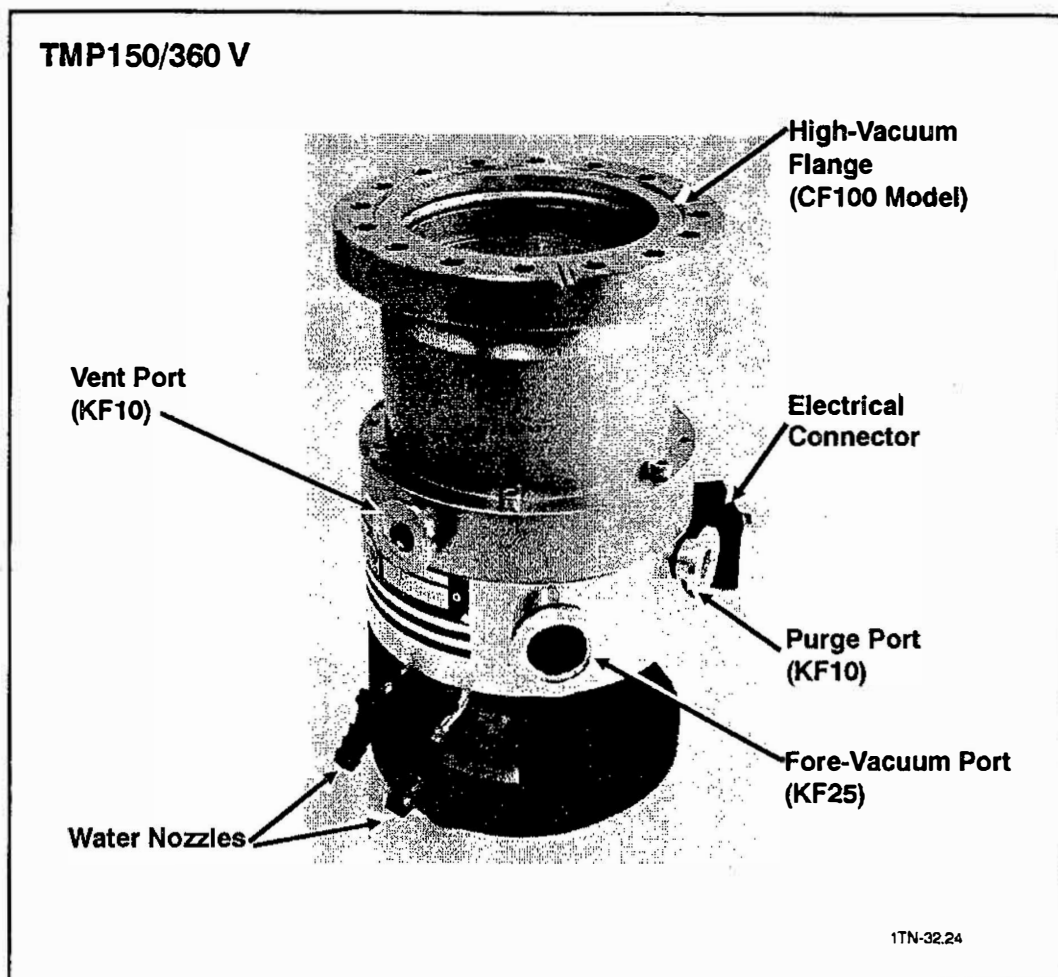
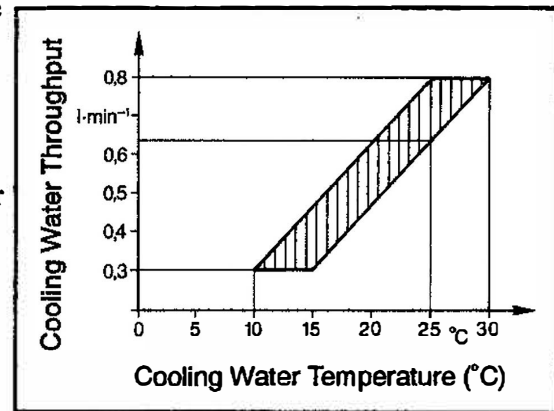

Figure 2-8. Turbopump Connections (TMP150V pump model shown)
Figure 2-9. Determining Cooling Water Throughput
CF-flanged pumps are required for ultra-high vacuum applications (see Figure 2-8). Ensure that there aren't any fingerprints or other residue in the pump's high-vacuum area that would prolong pumpdown; wipe with reagent alcohol as necessary. To achieve the lowest possible ultimate pressure, CF flanges should be baked out using the flange heater (see Appendix A.4) and the copper gaskets should be replaced each time you disconnect the flange. No mounting hardware is supplied with the CF flanged pumps. See Table 2-1 for the part number of the required copper gasket.
The turbopump fore-vacuum port is supplied with a KF25 clamp and centering ring with O-ring (see Figure 2-8). Assembly information for this and other types of vacuum fittings is located in the Leybold Catalog.
The turbopump is normally water cooled using a clean source of tap water connected to its water nozzles (see Figure 2-8). Installation instructions for water cooling are given in Section 2.4.4.1.
Connect a source of clean tap water to one of the turbopump's water nozzles; it doesn't matter which one is used (see Figure 2-8). Check your cooling-water temperature and refer to the graph, Figure 2-9, to determine the correct cooling water throughput. Maximum water pressure is 60 psig. Use 7/16 inch (11 mm) I.D. hose to make the water connection. Connect a second hose from the nearest water drain to the turbopump's other water nozzle. Use hose clamps to secure both hoses to the water nozzles.
There are two KF10 ports on the turbopump. The upper KF10 port on the pump housing is the vent port; the lower KF10 port on the base housing is the purge port (see Figure 2-8).
1. Ensure that the purge port is sealed with its blank flange (see Figure 2-8).
Install the optional Purge/Vent valve as follows (see Figures 2-8 and A-6):
1. Ensure that the vent port is sealed with its blank flange (see Figure 2-8).